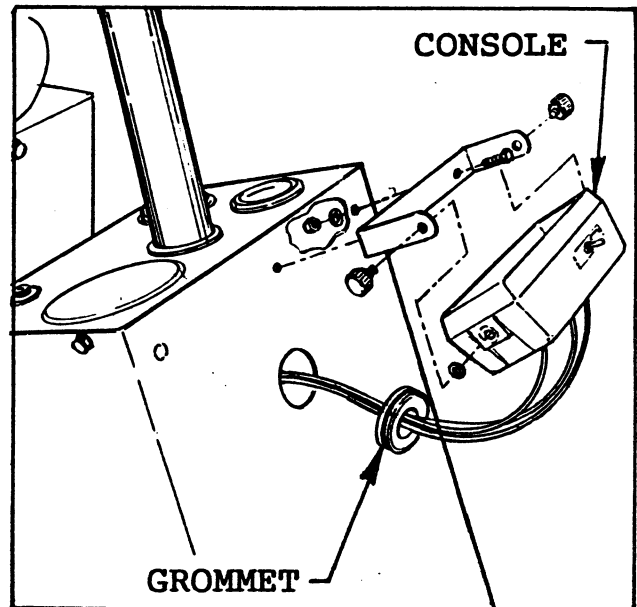

FIG. 6
- Remove the knock-out plug from the upper corner of the Vehicle console and insert a 1/4" bolt through the mounting bracket and into the console. Use the bracket as a template and drill a 9/32" dia. hole in the console. Secure the bracket to the console with 1/4" bolts, lock washers and nuts. See FIG. 6